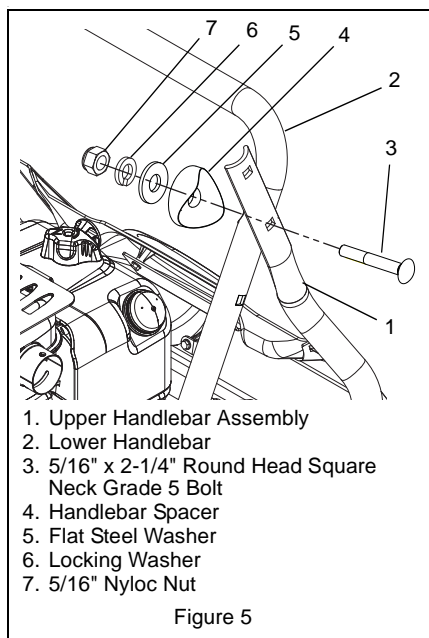

Figure 5
(Figures 5 and 6)
1. Attach upper handlebar assembly to lower handlebar using two sets of the handlebar hardware. One set to attach each side of the handlebars (Figure 5).
NOTICE: DO NOT tighten hardware. Allow upper handlebar assembly to hang from the lower handlebars for the next step (Figure 5).
2. Install the remaining handlebar hardware attaching the upper handlebar assembly to the lower handlebar (Figure 5).